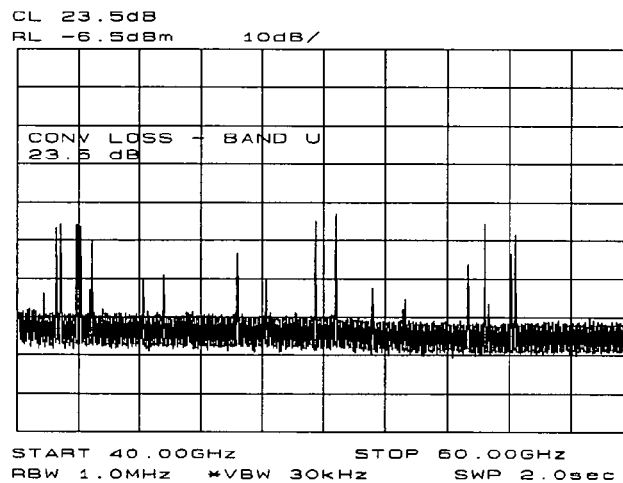

Figure 3-32. Store and correct for conversion loss.
- Table 3-1 lists default conversion-loss values that are stored in the analyzer for each frequency band. These values approximate the values for the HP 11970 Series Mixers. Other conversion-loss values may be entered into the spectrum analyzer in two ways. The first allows the user to save the average conversion-loss value for the entire band using **AVERAGE CNV LOSS**. To activate this function, press **AUX CTRL**, **EXTERNAL MIXER**, **AMPTD CORRECT**, **AVERAGE CNV LOSS**, then enter the appropriate average conversion-loss value. On HP 11970 Series Harmonic Mixers, these values are charted on the mixer. The U-band mixer used for this example had an average conversion loss of 35 dB, as depicted in Figure 3-32.